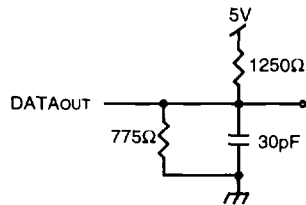

Figure 1. Output Load
Output Load	See Figures 1, 2 & 3
1. Transition is measured ±500mV from low or high impedance voltage with load (Figures 1, 2, and 3).